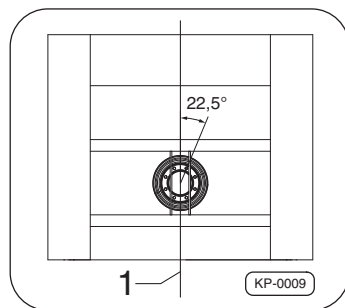

Fig. 8 · Installation proposal for fifth wheel kingpin
- Line of force –Item 1– central between two fastening screws (22.5°) Fig. 8.